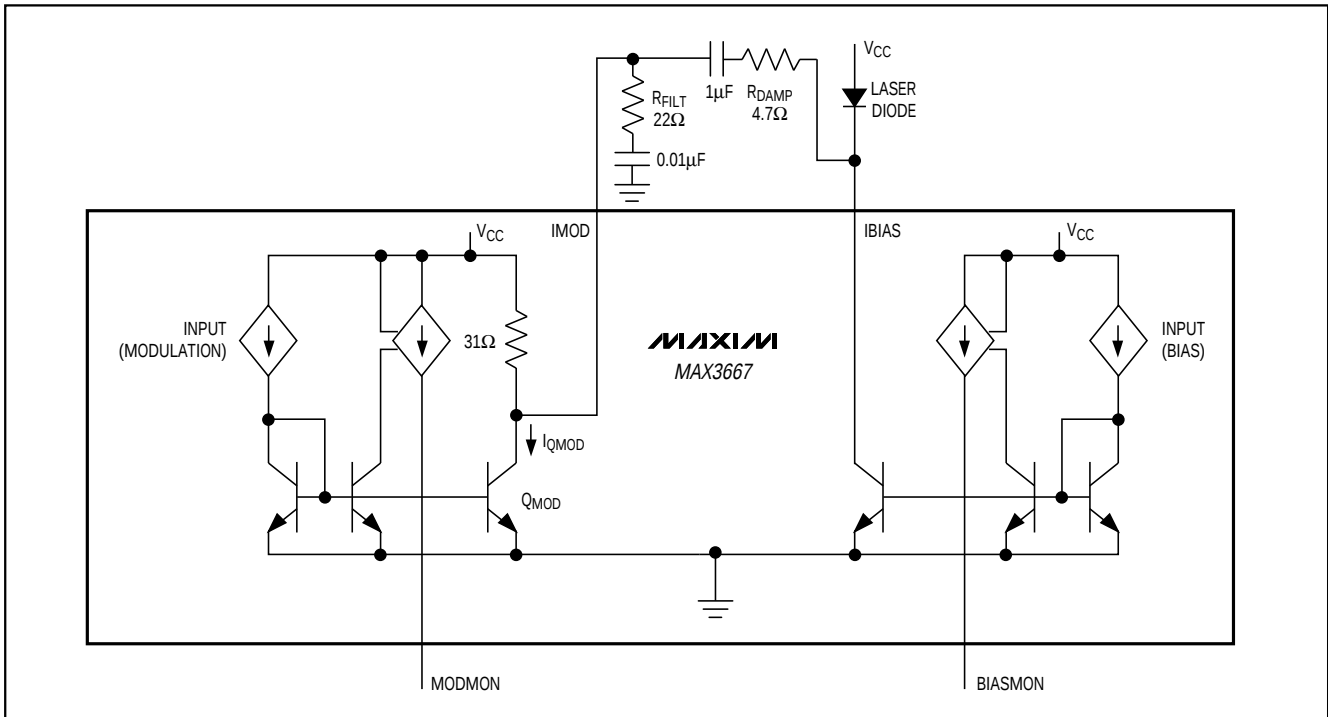

Figure 1. Simplified Modulation Driver Block Diagram
**Note 10:**  $I_{QMOD}$  is the current flowing into the collector of  $Q_{MOD}$  (Figure 1).
Low-voltage operation of laser diodes and optical transmitters produces stringent headroom conditions for laser drivers. Fast changes in modulation current produce large inductive voltage spikes, creating device saturation problems. Therefore, for +3.3V operation, the MAX3667's modulation current should be AC coupled to the cathode of a laser diode. The recommended DC blocking capacitor value is  $1\mu\text{F}$ . A simplified block diagram of the modulation driver is shown in Figure 1.
In addition to being a function of RMODSET, IMOD is also dependent on the values of the series damping resistor ( $R_{DAMP}$ ), the shunt compensation resistance ( $R_{FILT}$ ), and the resistance of the laser diode (Figure 1).